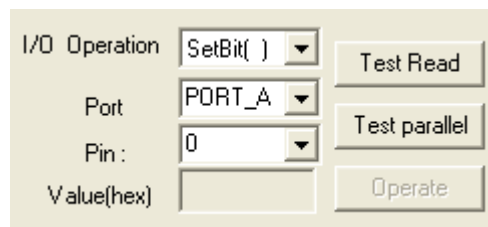

Figure 4-6 I/O Operation
4.1.2 I/O Operation : This section controls I/O port on Ethernet IO board. Figure 4-6 shows I/O operation section.